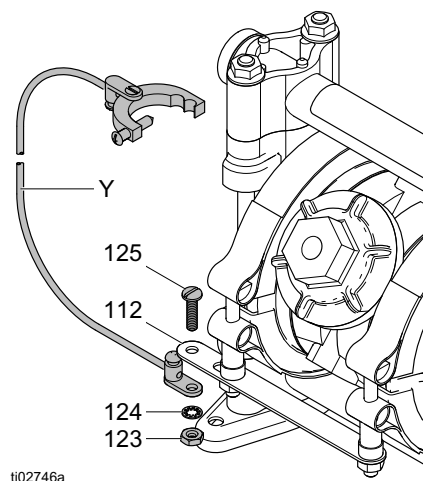

FIG. 1: Grounding
- Pump: Attach a ground wire (Y) to the grounding strip (112) with the screw (28), lockwasher (29) and nut (27), as shown in FIG. 1. Connect the clamp end of the ground wire to a true earth ground. Order Part No. 222011 Ground Wire and Clamp.